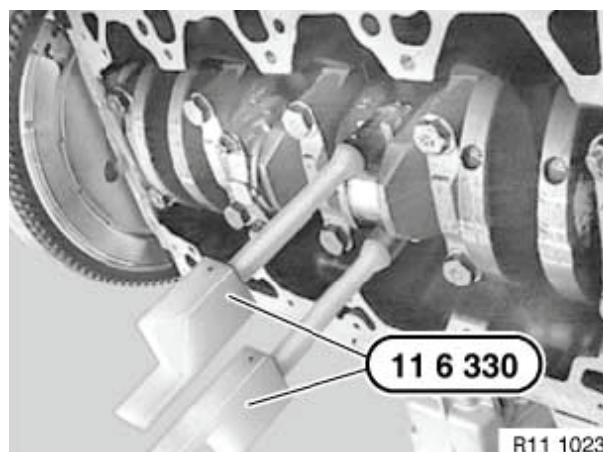

Figure 5-61
9. Remove special tool OEM No. 11 6 330 (**Figure 5-61**).